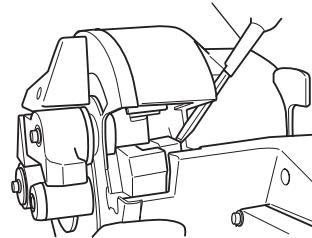

Fig. 11
- Removal of the lower cutter can be easily made if the lower cutter is wrenches with a Phillips head screwdriver as shown in the following diagram. (Fig. 11)